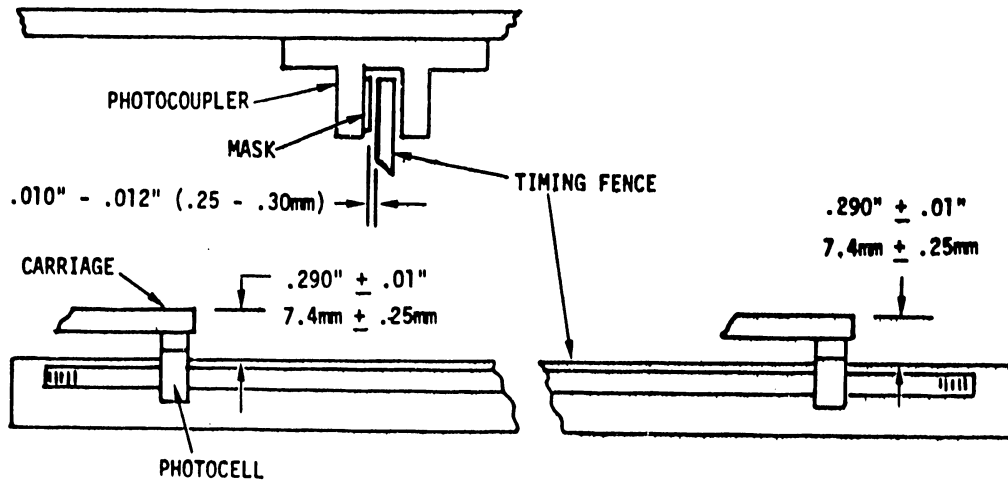

FIGURE 5-12 TIMING FENCE ADJUSTMENT CHECKS
- 2) The distance between the face of the fence and the photocoupler should be consistent along the length of the fence with a gap of $.010'' - .012''$ (metric $.25 - .30 \text{ mm}$). (See Figure 5-12.)